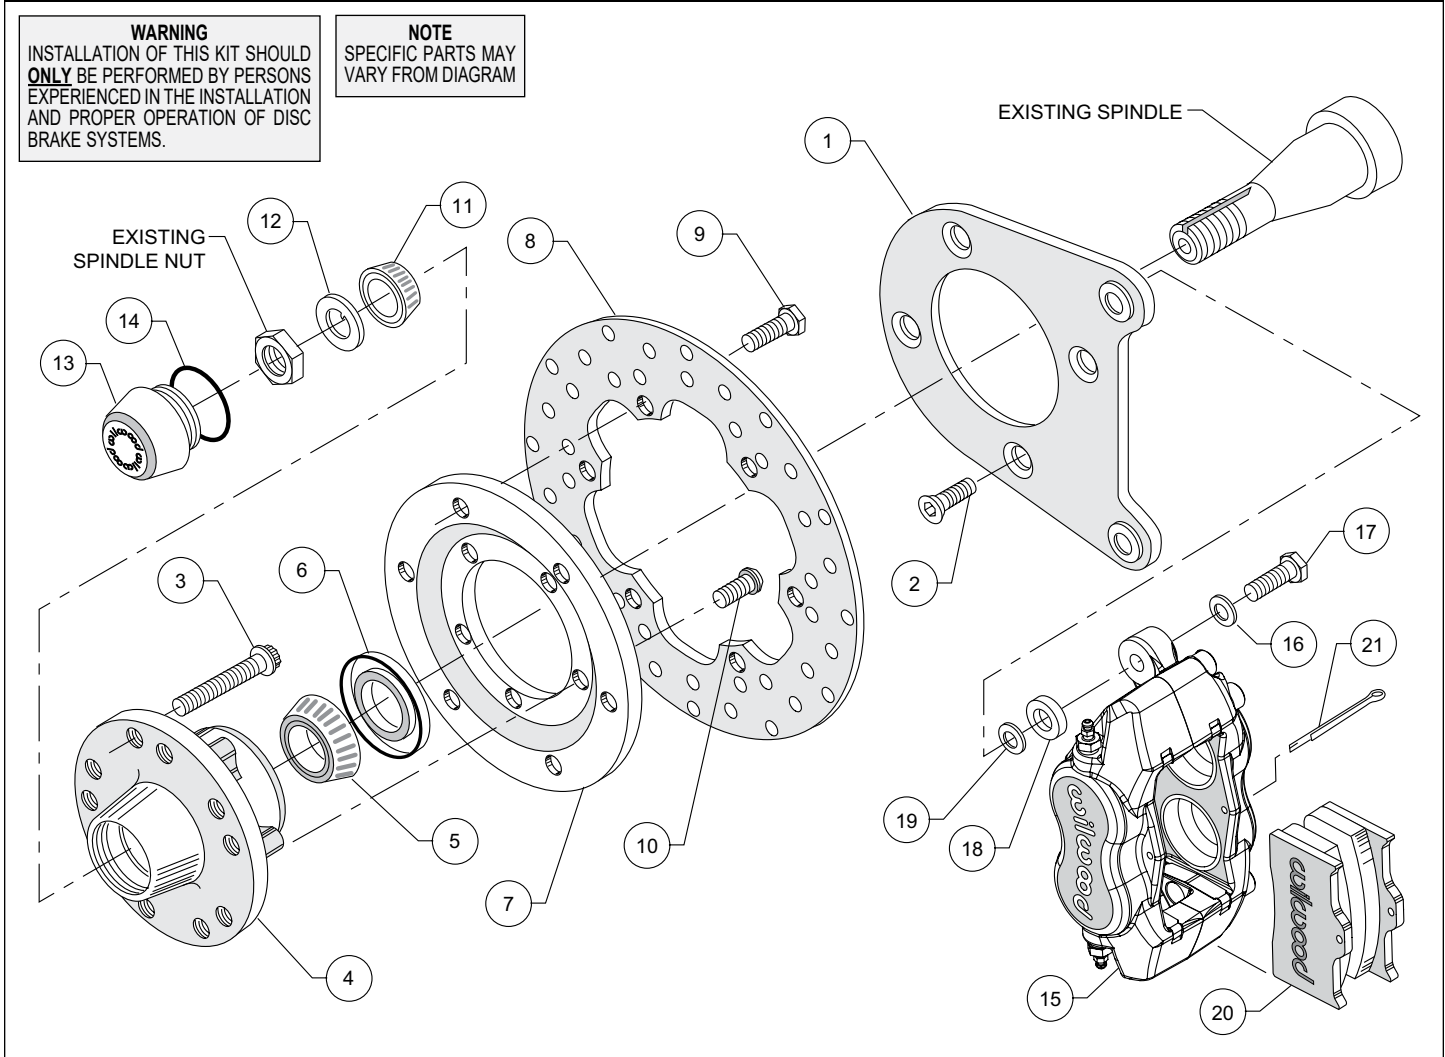

Figure 1. Typical Installation Configuration
NOTE: Numbers in parenthesis refer to the parts list and Figure 1 on the preceding pages.
•Mount the adapter/rotor assembly (7/8) to the hub (4) using bolts (10) (finger tight), as shown in Figure 1. Using an alternating sequence, remove bolts one at a time, apply red *Loctite*® 271 to the threads, and torque to 45 ft-lb.
•Pack the small outer bearing cone (11) with high temperature disc brake bearing grease and install into front of hub (4). Slide the hub/rotor assembly (4 and 8) with outer bearing cone (11) onto the spindle. Secure using spindle washer (12), adjusting nut, and nut locking device. Adjust bearings per Original Equipment Manufacturer (OEM) specifications.
•Install the dust cap (13) onto the hub (4). Friction created by the o-ring (14) on the dust cap (13) keeps it from unscrewing. The O.D. of the existing spindle washer may be larger than the I.D. of the dust cap (13) not allowing it to seat against the hub face. Some grinding on the washer O.D. may be necessary to clear the I.D. of the dust cap (13).
•**NOTE:** Please reference the caution statement at the beginning of the assembly instructions. Mount the caliper (15) onto the caliper bracket (1) using washers (16) and bolts (17) and caliper spacers (18). Finger tighten. View the rotor (8) through the top opening of the caliper (15). The rotor (8) should be aligned in the center of the caliper (15). If not, adjust the caliper (15) by using 0.032 inch thick